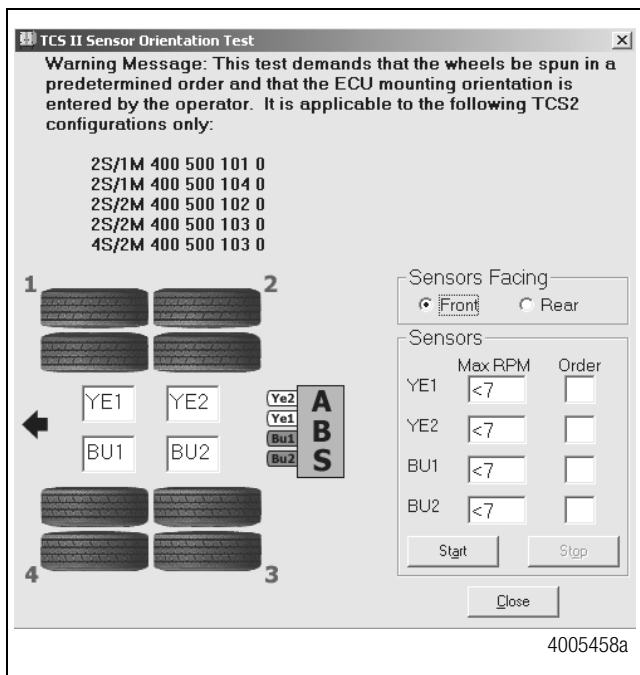
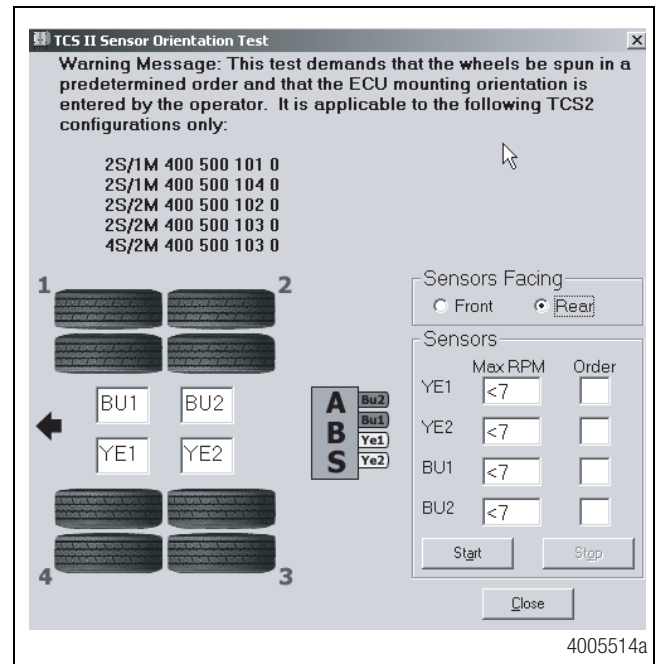

Figure 23
Figure 24
4. At the **Trailer Main Menu**, click on **Component Test**, then select **Sensor Orientation Test** to display the **Sensor Orientation Test** screen. Figure 23.
5. Click on **Front** or **Rear** in the **Sensors Facing** field to select the mounting orientation of the ECU/dual modulator valve assembly. Figure 24.
Refer to Figure 23 and Figure 24 for illustrations of the ECU mounted with sensors facing forward and rear. The correct mounting orientation must be selected prior to starting the test (Step 5).
7. Follow the screen prompts, starting with 1, to rotate each sensed wheel end at a rate of 1/2 revolution per second. This rate equals a wheel speed of approximately 4 mph (7 kph). As each sensed wheel is rotated, check the color of the sensor identification block on the screen for results. Sensor identification boxes are located in the bottom left portion of the **Sensor Orientation Test** screen. Figure 24.
9. Verify there is sensor output. If there is no sensor output, verify that a tone ring has been installed and that the sensor is pushed all the way in against the tone ring. Perform the necessary repairs and repeat the test. If the problem persists, contact Meritor WABCO (800-535-5560). Sensor output appears in the Sensors field located in the bottom right portion of the **Sensor Orientation Test** screen. Figure 24.